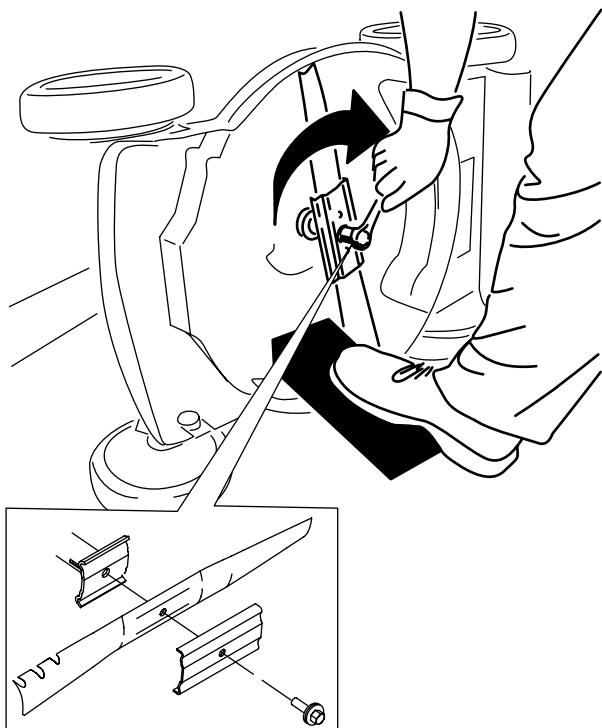

Figure 35
5. Install the new blade and all mounting hardware (Figure 35).